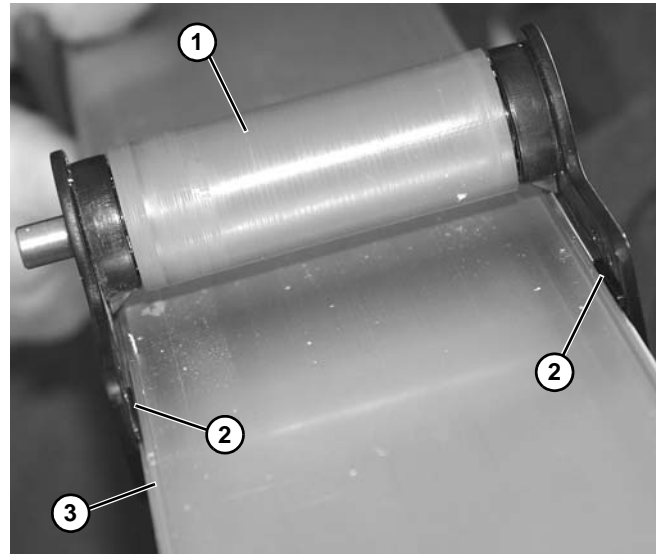

Figure 39
1. Install roller (Figure 39, item 1) onto pinch plates, making sure tabs (Figure 39, item 2) are seated on each pinch plate and are seated onto conveyor frame (Figure 39, item 3) as shown.